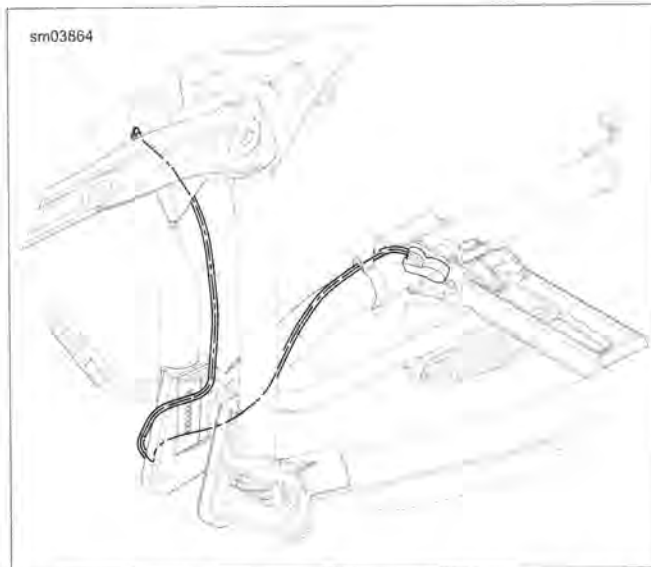

Figure 2-163. Jiffy Stand Sensor Harness Routing
- See Figure 2-163. Record harness routing for ease of assembly. Disconnect sensor connector [133] located under the seat.
- See Figure 2-163. Verify that the sensor harness is routed to the inside of the left-lower frame and under the rear engine mount casting.